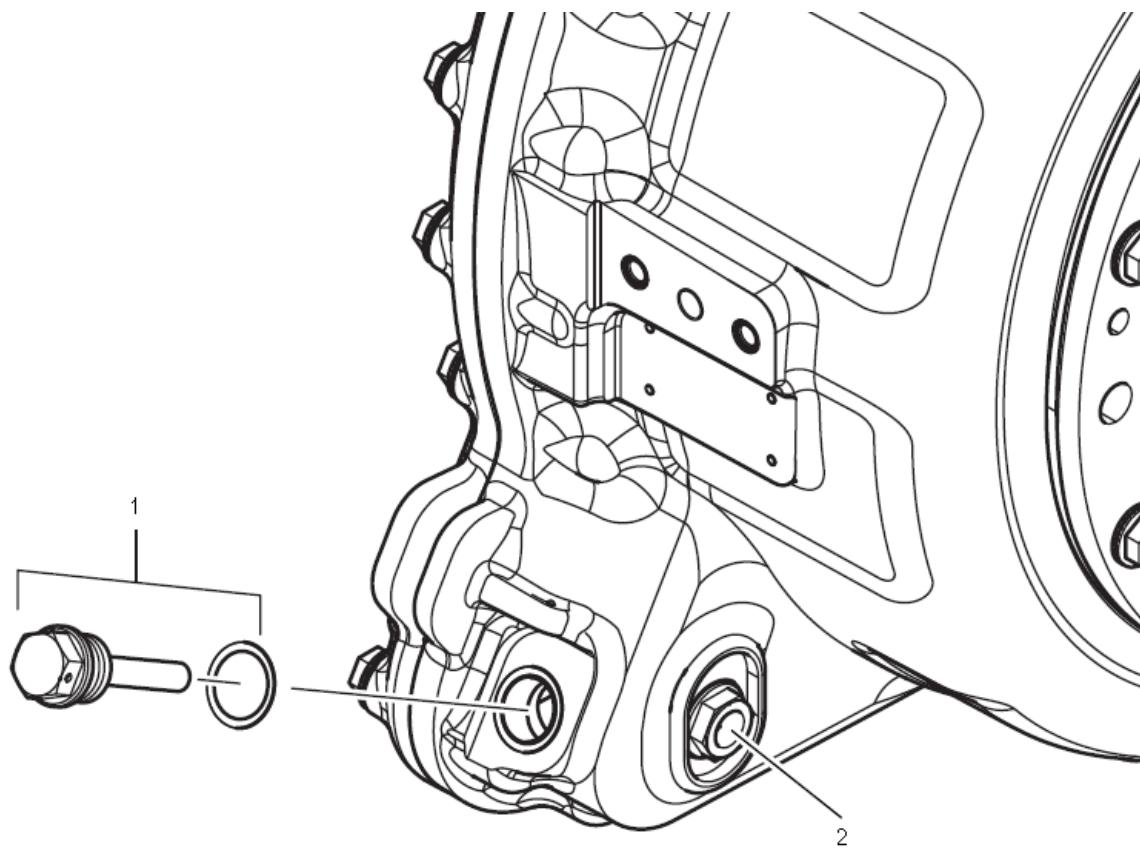

Figure 4-4: Oil Filler Plug
1. Remove locking wire at oil filler plug (1) as shown in Figure 4-4.